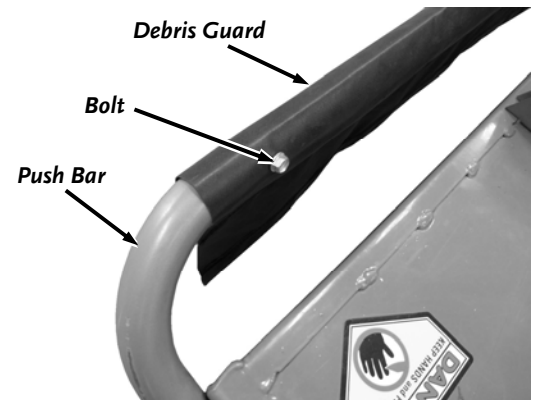

Figure 33
4. Remove the two Bolts (one Bolt on each side) that secure the Debris Guard using a 7/16" Wrench (**Figure 33**).